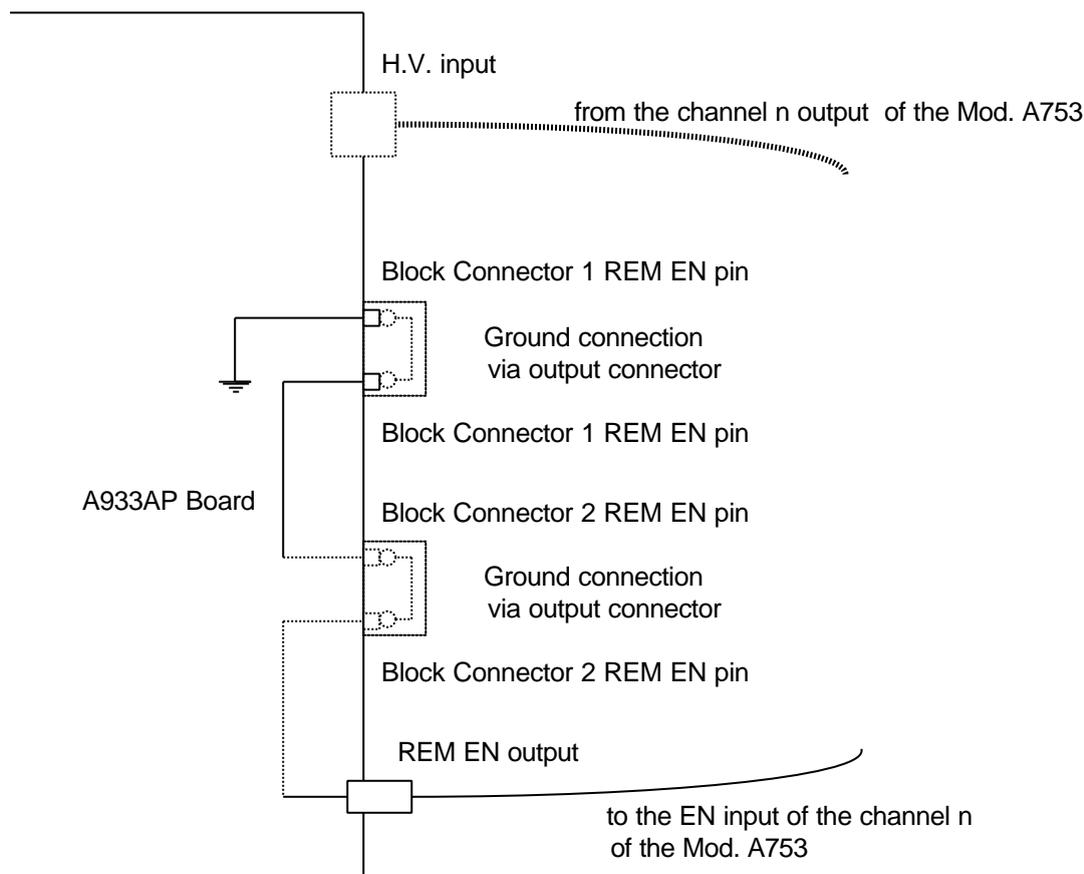

Fig. 2.6: Mod. A933A-A753 Remote Enable Scheme
Figure 2.6 describes this protection scheme and the required connections between the Mod. A933A and the Mod. A753.
**N.B.:** If there is High Voltage supplied on the H. V. input of the A933A board with other connection schemes different than the one shown in Fig. 2.6 (e. g., if a H. V. primary channel different from the A753 is used), there is ALWAYS High Voltage on the Multipin connectors. For ordinary functioning or for tests of the A933A board, it is strongly suggested to stick to the Remote Enable connection scheme to avoid any H. V. hazard.
When the Remote Enable connections are in place according to Fig. 2.6, even if all channels are set to OFF via terminal, H. S. CAENET or via front panel keyboard, this does NOT imply that there is no output voltage on the Multipin connectors.